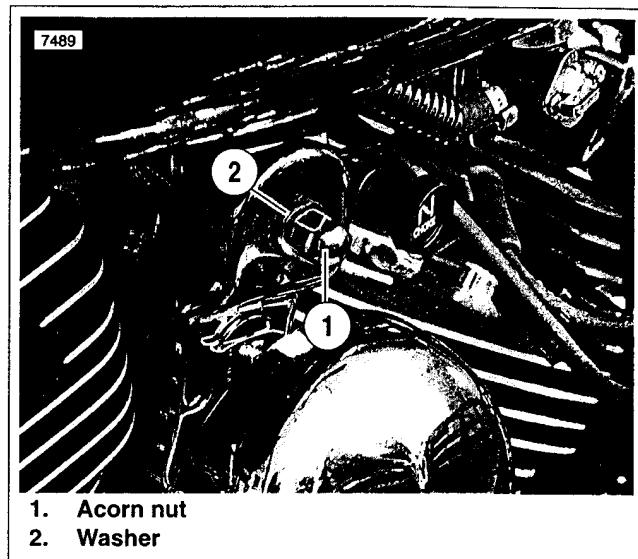
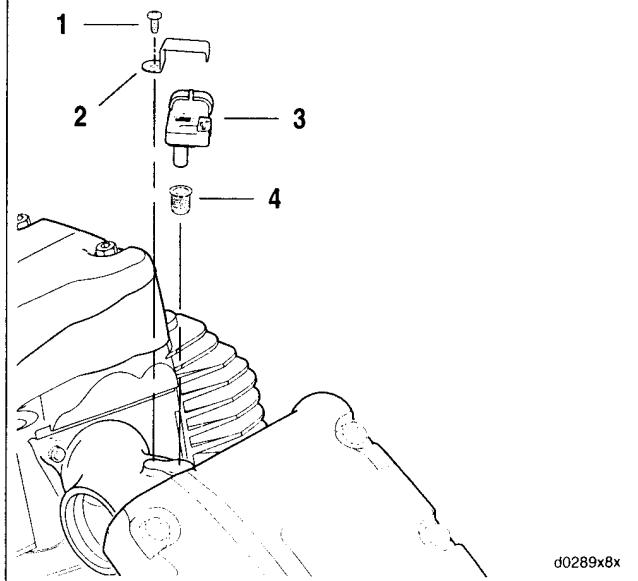

Figure 8-12. Horn Mount
Figure 8-13. MAP Sensor
3. See Figure 8-12. Remove acorn nut (1) and washer (2) to detach horn from mount. Push horn aside.
6. See Figure 8-13. Using a T20 TORX bit, extension and universal socket, remove screw (1) and clip (2) from top of MAP sensor (3).
7. Using appropriate tool gently remove (push up) MAP sensor and attached seal (4) from intake manifold.
2. See Figure 8-13. Install (push) MAP sensor (3) and seal (4) to intake manifold.
3. Position clip (2) in slot on MAP sensor and install T20 TORX screw (1). Tighten to 25-35 in-lbs (2.8-3.9 Nm).
5. See Figure 8-12. Attach horn with washer (2) and acorn nut (1). Tighten to 110 in-lbs (12.4 Nm).